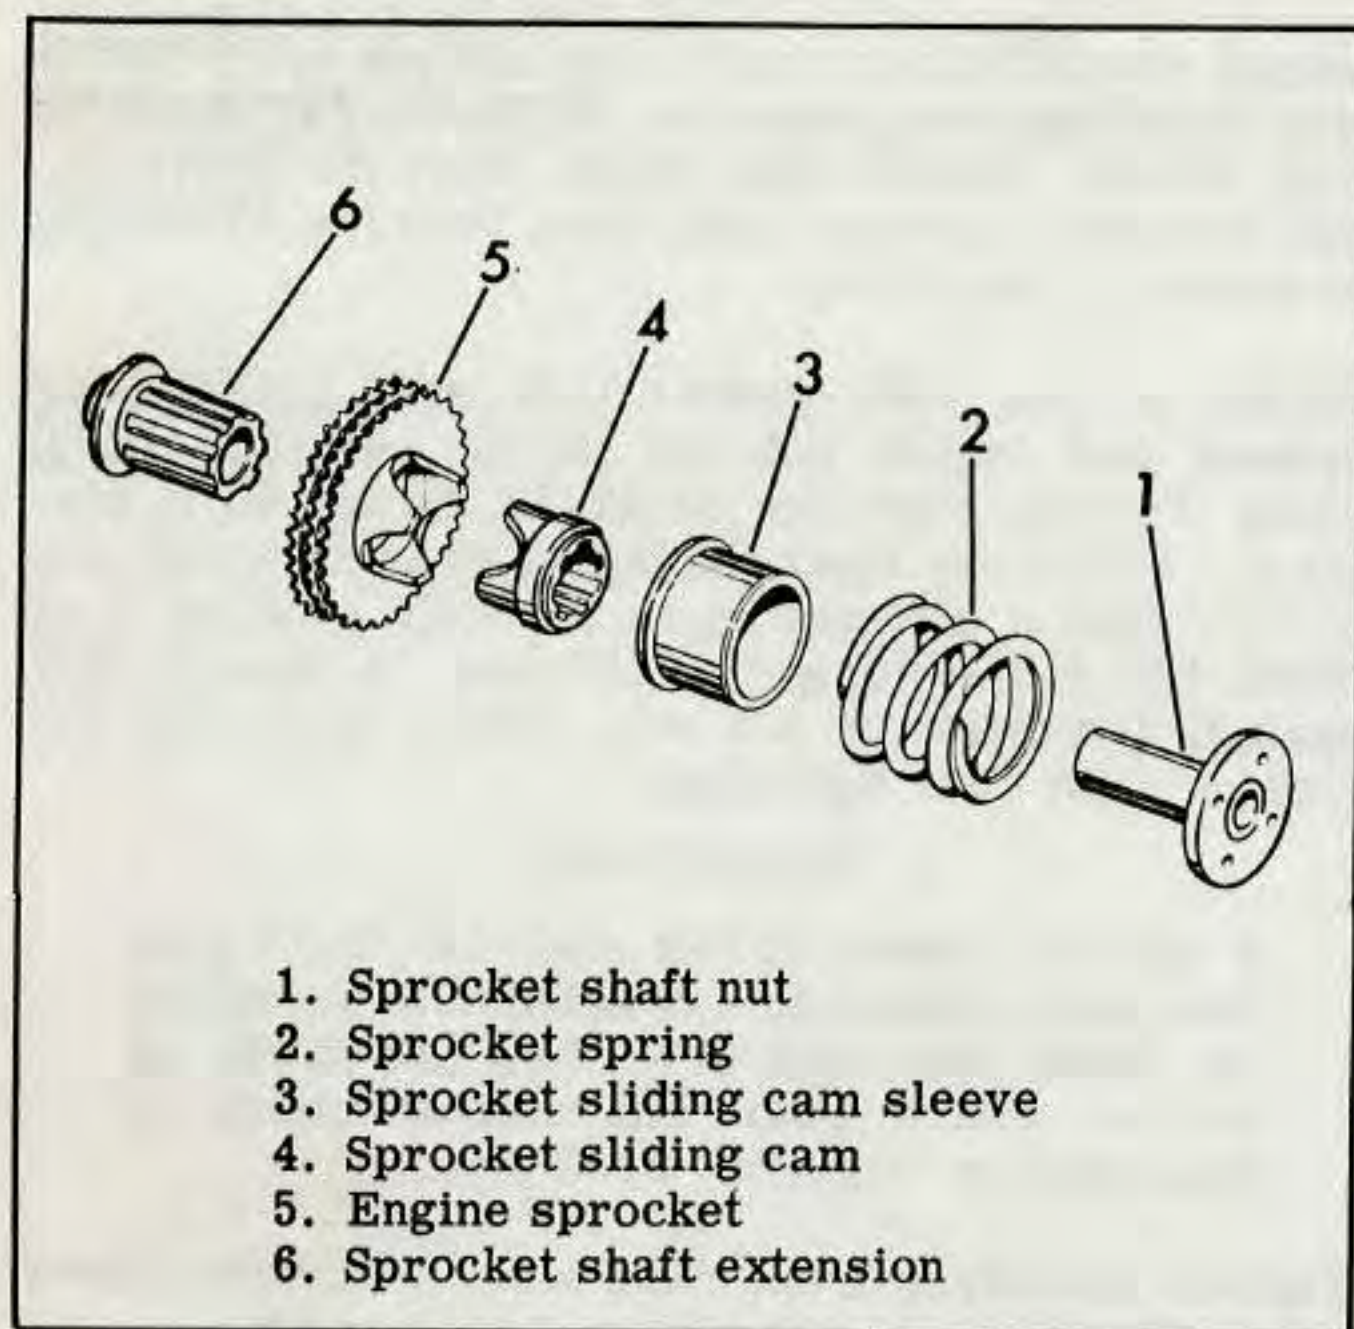

Figure 4B-12. Compensating Sprocket - Exploded View
See Fig. 4B-7. Install chain cover (5) and screws (4) with new gasket. If necessary, use gasket seal on both sides of gasket. Assemble rear brake pedal (3), spotlight switch (2) and footrest (1).
REMOVING COMPENSATING SPROCKET (Fig. 4B-12)
Loosen clutch sprocket and front chain as described in "Disassembling Clutch." Then remove compensating sprocket shaft nut (1), using Shaft Nut Wrench, Part No. 94557-55, as shown in Fig. 4B-10. Remove spring (2), sliding cam sleeve (3), sliding cam (4), sprocket (5), front chain and clutch shell together. Use Sprocket Shaft Extension Puller, Part No. 96015-56, to remove extension (6) from sprocket shaft if necessary (see Fig. 4B-13).